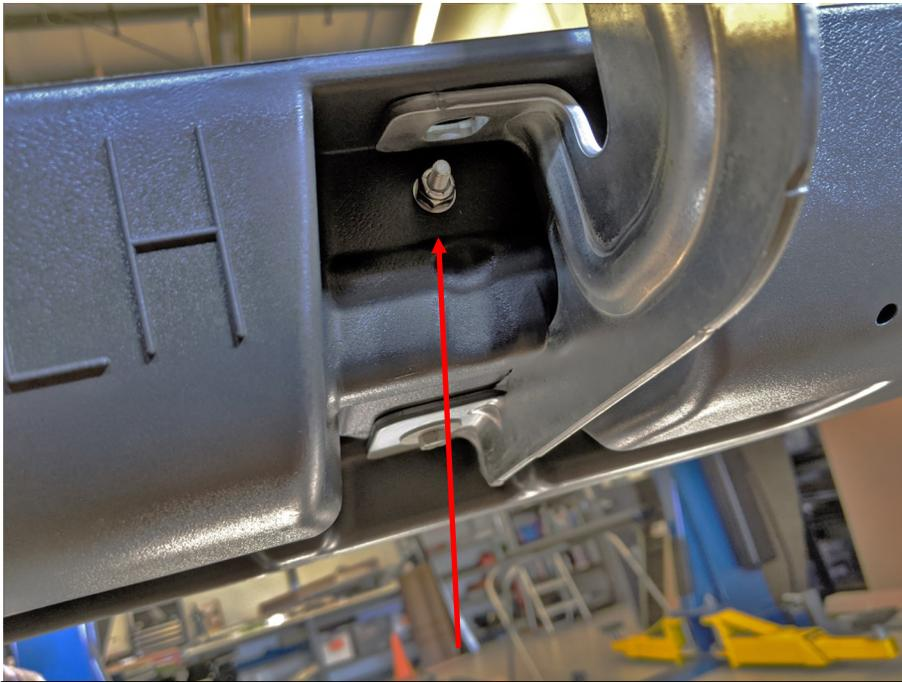

Figure 5. Nut Location
4. Using the 10-24 locknuts and washers, use a 3/8" socket or wrench to attach the extrusion to the running board. It may be necessary on some of the recesses to remove the stamped metal bracket to tighten the nylock nut. **Figure 5**.